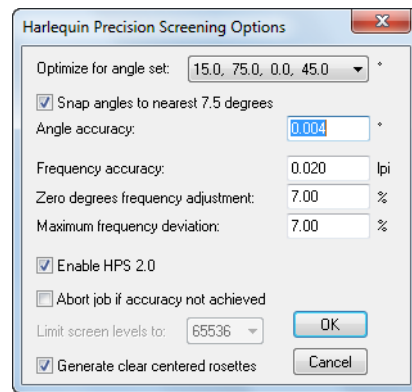

Figure 6.6 Harlequin Precision Screening Options dialog box
- When using HPS, the RIP produces the number of gray levels required to attain the specified accuracy of screening, as set in the HPS Options dialog box, shown in Figure 6.6, page 182.